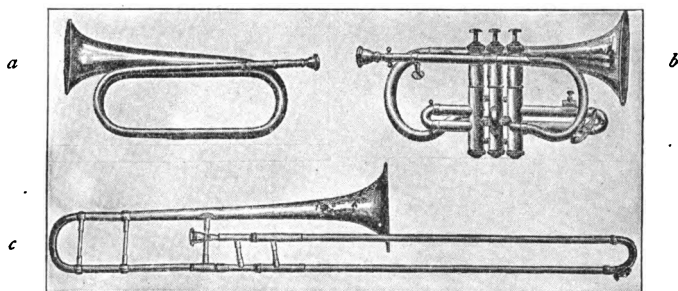

FIG. 161.—(a) BUGLE, (b) CORNET, (c) TROMBONE
**189. Lip Instruments.** In the trumpet or bugle, cornet, and trombone (Fig. 161), the puckered lips are placed across the mouthpiece. Air from the lungs passing through the slit thus formed sets the lips in vibration. The air column of the instrument resounds to these vibrations. The overtones are those of the *open* pipe. The length of the air column in the bugle is fixed. It is played by overtones only, beginning with